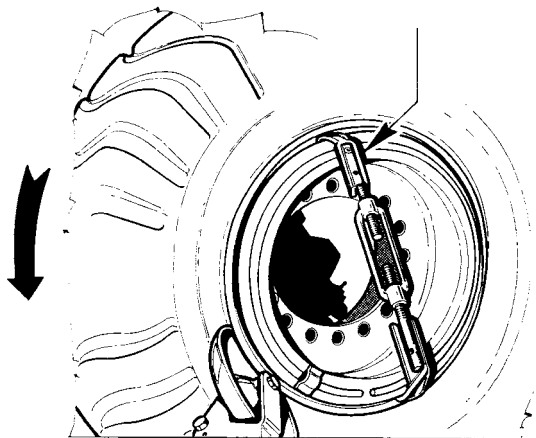

Fig.38
2. Position the tool close to the rim edge (fig.38). When the lock ring is stuck to the tire bead, (on the O.T.R. tires) to loosen the bead, it is necessary to hold the ring to the rim with the appropriate clamp #874007611 (optional accessory).